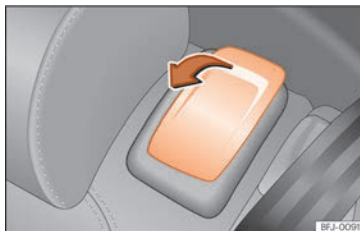

Fig. 147 Second seat row: accessibility controls.
- Pull the release lever **»» Fig. 147** in the direction of the arrow.
- Pull the lever »» Fig. 147 and push the backrest backwards until it is not vertical. The entire seat folds down »» ⚠.